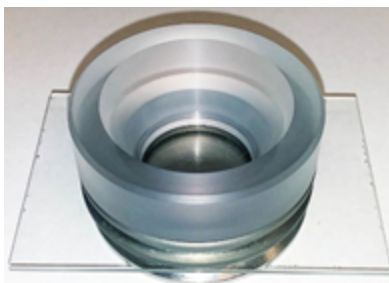

Figure 18. Funnel inside ring.
- Take the funneling piece and put it inside the ring (*Figure 18*).